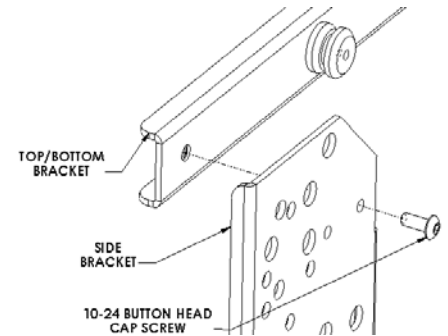
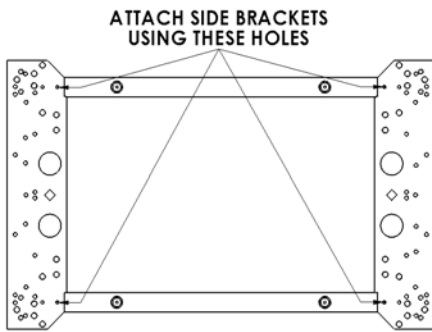
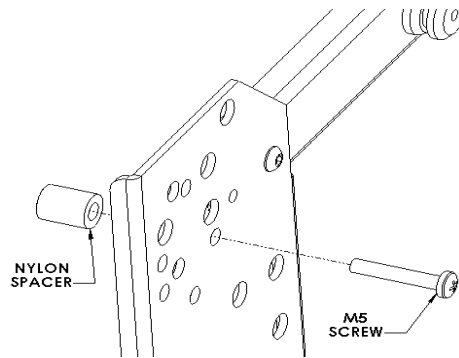
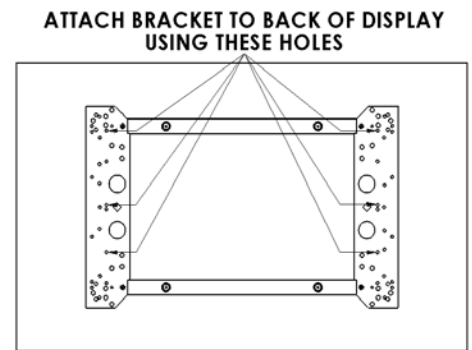

Figure 4
Figure 5
Figure 6
Figure 7
3. Place Nylon spacers on mounting holes on back of display (see Figure 4 and Figure 5). Attach brackets to display using the M5 screws (see Figure 6 and Figure 7). If your screen has a Turner or Media Box on back, stack two nylon spacers and M5 x 45mm screws to space the interface bracket away from back of screen.